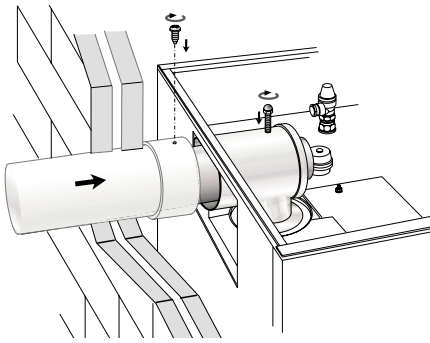

Fig. 4
13. Refit the outer pipe to the boiler connector section. Align the pre-drilled hole in adjustable sleeve with the hole in the top of the connector section. Secure using self-tapping screw previously removed (Fig. 4).